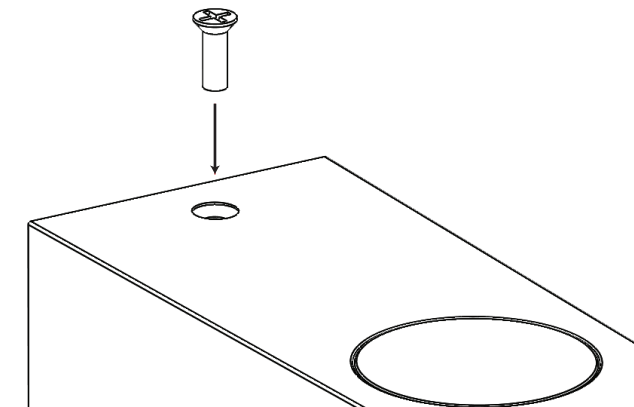

Fig. 6
6. Using 8-32 screw, fasten fixture to mounting bracket till secure - see Fig. 6.